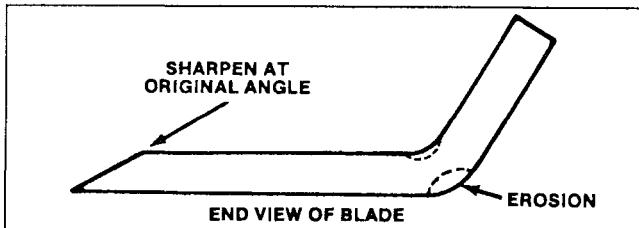

Figure 17
Check cutter blade every time rider is tipped on end. If bolt holding blade is loose, tighten it to 45-60 ft-lb. If blade or sail (Fig. 17) at end of blade is worn, eroded, or cracked, replace the blade. Replace the blade if it is bent or out-of-balance. Always use genuine TORO replacement blade to ensure safety and best performance. NEVER USE WILL-FIT REPLACEMENT BLADE.
- Using a file, sharpen cutting edge at both ends of the blade (Fig. 17).
7. Since rider is tipped on end, check condition of blade (Fig. 17).